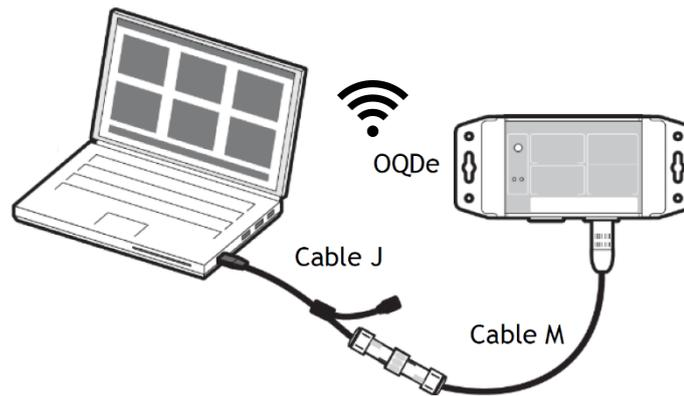

Figure 25 - Connecting to the OQDe via Wi-Fi Hotspot
Insight is a web-based application allowing configuration of the OQDe and access to live and historic data, which can be downloaded via Wi-Fi. To connect to Insight, first power up the OQDe using the power & data cable (Cable M & Cable) or alternatively by connecting it to a Laptop or PC using Cable J and Cable M as shown in Figure 25. The device will power on automatically and the Power LED will illuminate green. Within a few seconds, the Wi-Fi Hotspot will start broadcasting and the Wi-Fi LED will also illuminate blue. You can now connect to the OQDe using Wi-Fi via any PC, Tablet or Mobile Device. Simply search for nearby devices. The default SSID of the OQDe is “TanDelta OQDe” and password is “password”. This will create a local network between the device and the display.
- ❖ Connect OQDe to your Laptop/PC via Cables J and M (Figure 25).